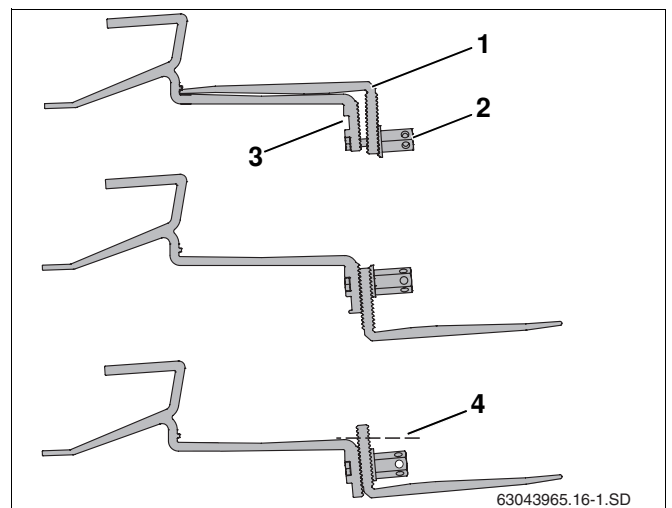

Fig. 16 Repositioning lower part of roof hook
- Loosen the long hexagon nut (Fig. 16, **Item 2**).
- Insert bolt into upper hole (Fig. 16, **Item 3**).
- Loosely fasten lower part of roof hook (Fig. 16, **Item 1**). Do not tighten the connection yet.